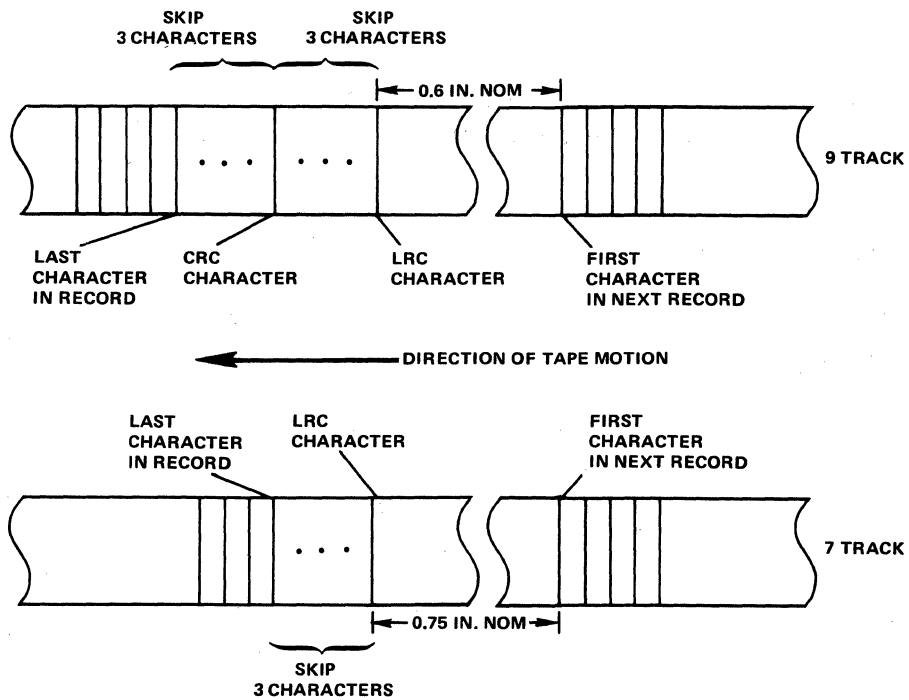
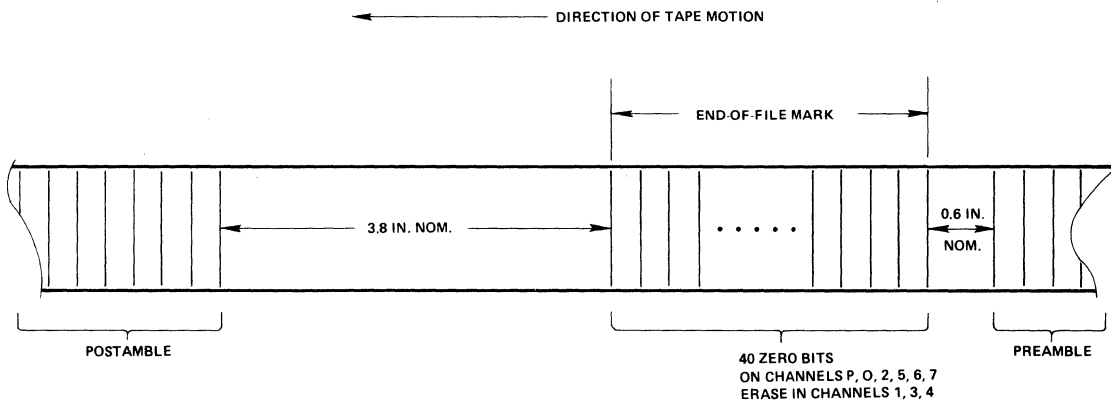

Figure 3-6. End-of-Record Mark Formats for 7 and 9 Track NRZI Tapes
Figure 3-9. End-of-File Mark for PE Tapes
The data is formatted and recorded on the tape in blocks referred to as records. The exact configuration of a record depends on whether the tape is in 7 or 9 track format. On 9-track tape, each record consists of the data, a cyclic redundancy check (CRC) character, and a longitudinal redundancy (LRC) character. The CRC character must occur four character times after the final data character, and the LRC character must occur four character times after the CRC. A minimum spacing of 0.5 inches is required between records. The end of a record is shown in figure 3-6.
On 7 - track tape, each record consists of data, followed by an LRC character only, as shown in figure 3-6. Minimum spacing between data records is 0.6 inches.
Standard end - of - record and end - of - file mark formats that are used for NRZI recording are show in figures 3-6 and 3-8, respectively. The corresponding preamble and postamble for PE recording is described in paragraph 3-12 above. The end-of-file mark for PE recording is shown in figure 3-9.
- e. After the last character in the record is written, the formatter will gate the proper CRC, LRC, as they are shown in figures 3-6, 3-8, and 3-9.